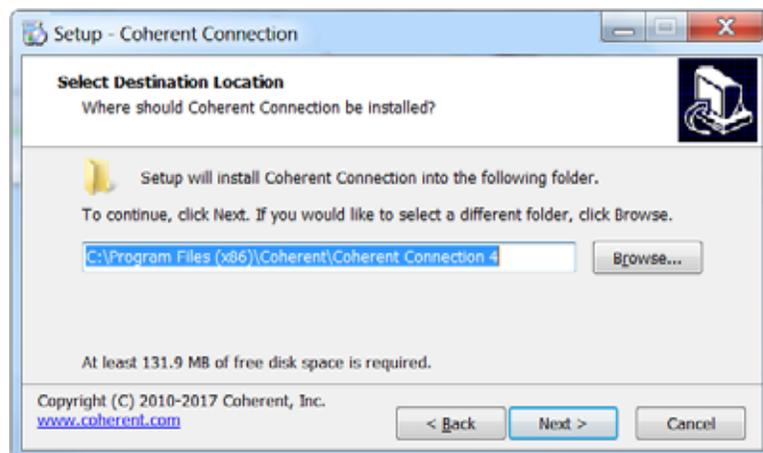

Figure 4-20. Select Directory to Install Software
9. The window shown in Figure 4-20 is displayed. Accept the selection, or browse to select the directory on the workstation where you want to install the software, and click Next.